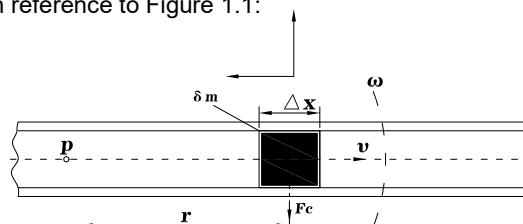

Figure 1-1
If a pipe is rotated around a point (P) while liquid is flowing through it (toward or away from the center of rotation), that fluid will generate an inertial force, with reference to Figure 1.1:
The force generated by tangential acceleration is Coriolis force, its value is equal to $F_c = 2wv\delta m$. In figure1.1 fluid $\delta m = \rho A \times \Delta X$, So Coriolis force can be expressed as: